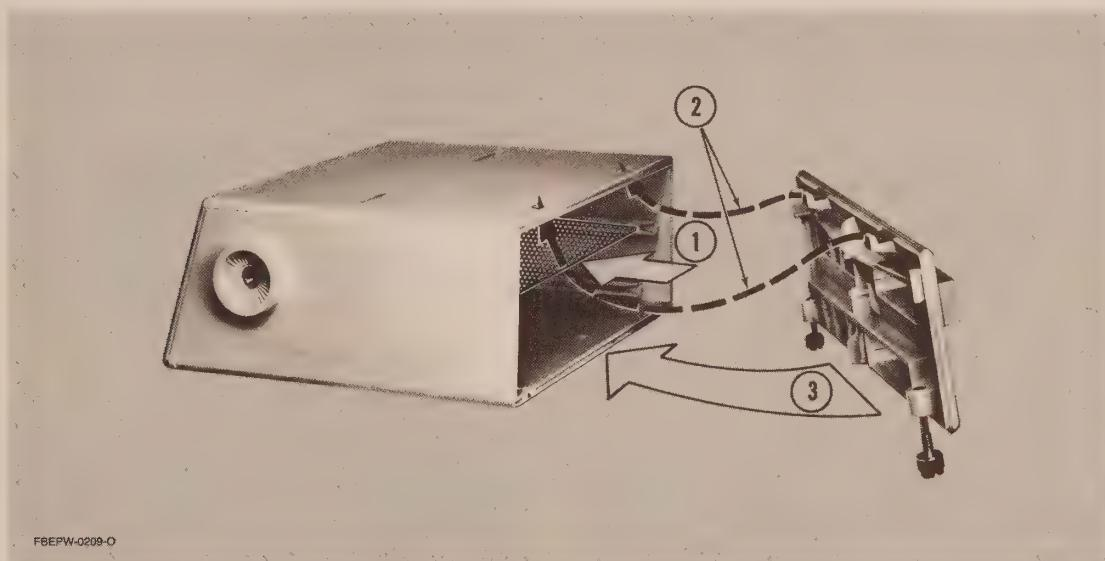

Figure 3. Installation of Circuit Board and Rear Cover
(5) Insert the board into the rails (① in Figure 3) and slide it completely into the housing assembly.
(6) Install the rear housing cover by inserting the tabs on the top of the cover into the holes in the top of the housing assembly (② in Figure 3), and swinging the cover down against the bottom and securing it with the two captive screws (③ in Figure 5).
(7) Use the contact removal tool to remove the following wires, with pins attached, from black connector P101 (from the alternate control module):
(8) Free the end of the black-gray wire that is tied at the end of the cable.
(2) Put the circuit board between the rails as shown in Figure 3 and slide it all the way into the housing assembly. (Figure 3 shows the *Mitrek* control head, but the *SYNTOR* is similar.)
(3) Remove the old escutcheon, if there is one, from the front panel. Remove the *MVS-20* escutcheon from its backing and apply it carefully to the front panel of the housing assembly. Use care to align the holes in the escutcheon with the holes in the panel.
(4) Install the rear housing cover by inserting the tabs on the top of the cover into the holes in the top of the housing assembly (Figure 3) and swinging the cover down against the bottom and securing it with the two captive screws.
(5) Disconnect black connector P1011 from the control head.
(6) Use the contact removal tool to remove the following wires, with pins attached, from P1101: